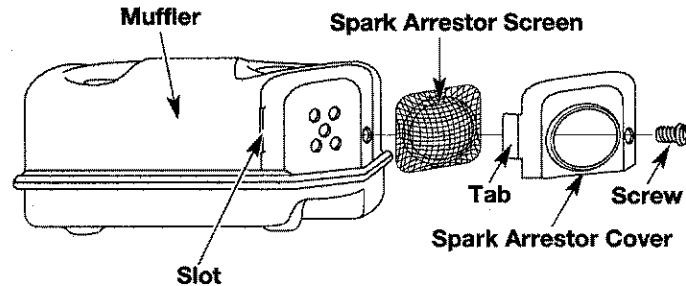

Fig. 58
2. With a flat blade screwdriver or Torx T20 bit, remove the screw attaching the spark arrestor cover to the muffler (Fig. 58).